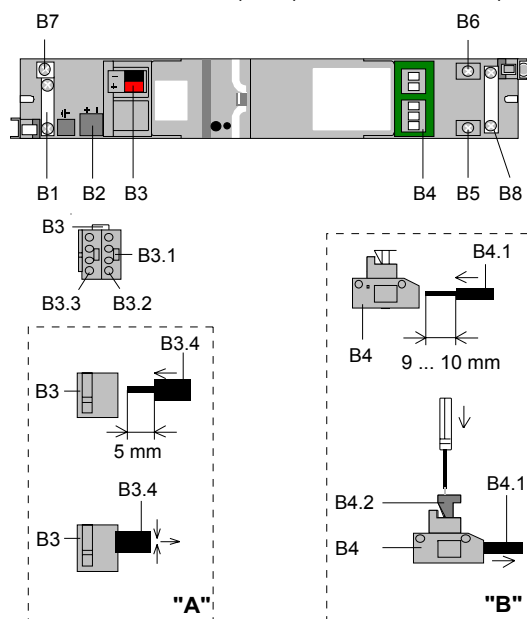

Figure 3: Connections
Slipping off bus connection blocks (Figure 3)
Slipping on bus connection blocks (Figure 3)
Connecting bus cables (Figure 3 "A")
- The sheathing of the bus cable must be attached to the casing of the built-in device via the conductor fixing (B1). When using a cable with shielding, it can be screwed onto the terminal (B7, Figure 3).
The recess (B2) can be used to accommodate an over-voltage protection which is connected to the bus connection block in parallel with the bus line (Figure 3).
Disconnecting bus cables (Figure 3 "A")
Connecting load and control circuits (Figure 3 "B")
- The sheathing of the bus cable must be attached to the casing of the built-in device via the conductor fixing (B8, Figure 3).
The terminals (B5) and (B6) are used to connect the N wires (B6) and PE wires (B5) of several cables (Figure 3).
Disconnecting load and control circuits (Figure 3 "B")